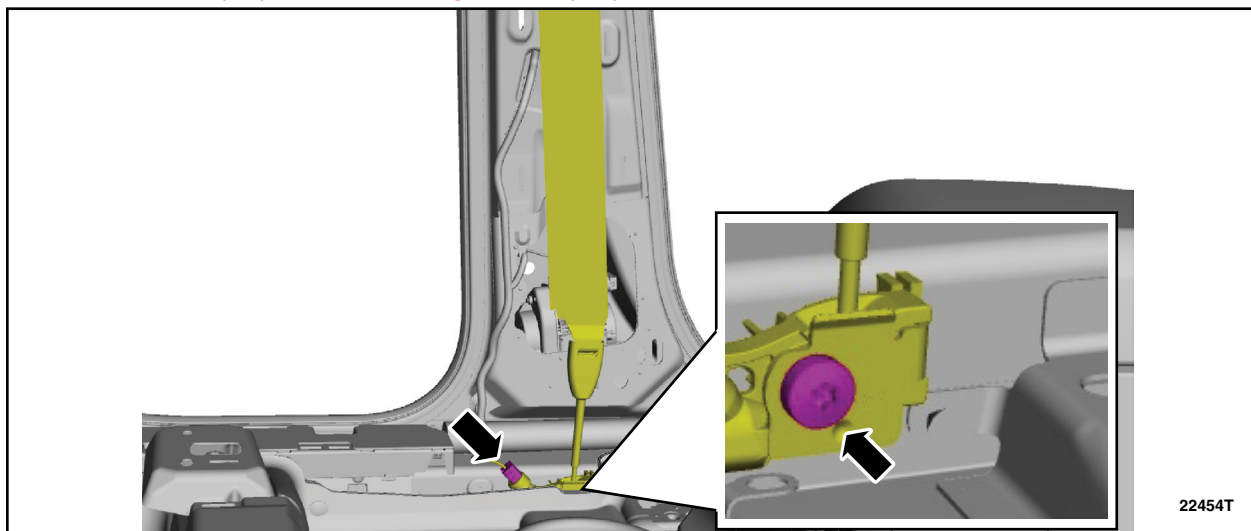

FIGURE 1
4. Position the front seatbelt anchor and pretensioner aside, disconnect the front seatbelt anchor and pretensioner electrical connector and remove the front seatbelt anchor and pretensioner bolt. See Figure 1.